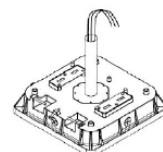

Figure 5
5. If the incoming power wires from the luminaire are longer than the pendant, make wiring connections in the junction box. If the wires are not longer than the pendant, pull wires from the junction box as required, and make wiring connections inside the pendant (see Figure 5).